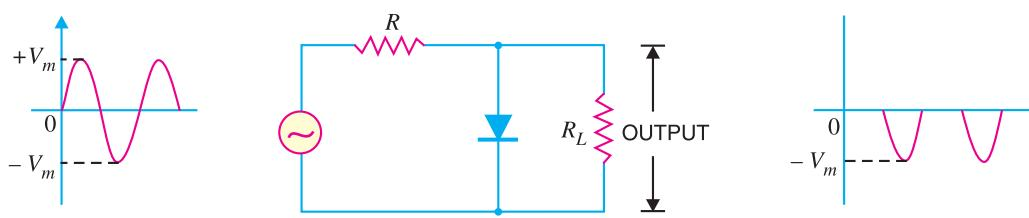

Fig. 18.25
**(i) Positive clipper.** A positive clipper is that which removes the positive half-cycles of the input voltage. Fig. 18.25 shows the typical circuit of a positive clipper using a diode. As shown, the output voltage has all the positive half-cycles removed or clipped off.
It may be noted that if it is desired to remove the negative half-cycle of the input, the only thing to be done is to reverse the polarities of the diode in the circuit shown in Fig. 18.25. Such a clipper is then called a *negative clipper*.